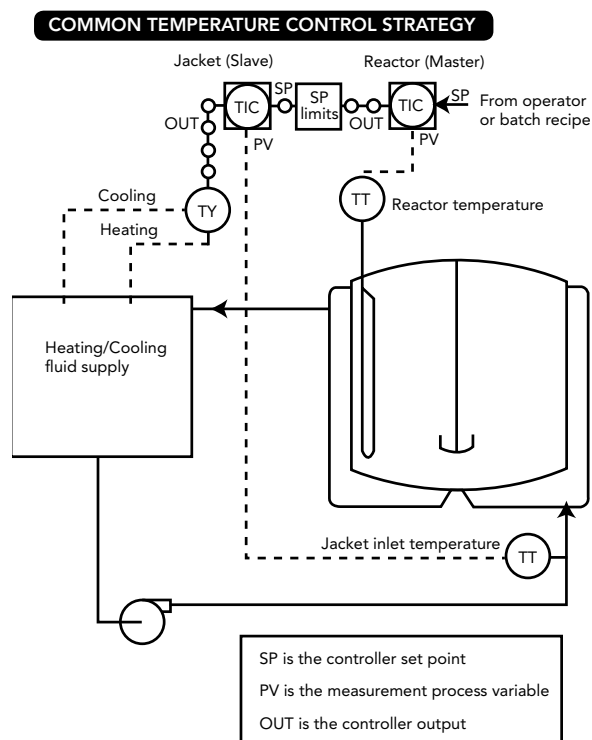

Figure 1. Various split-range (TY) configurations can be used to regulate jacketed glass-lined batch reactors.
Figure 1 shows a common control system for glass-lined batch reactors where the slave loop operates on the jacket inlet temperature to protect the lining. The heating/cooling supply can have various split-range (TY) configurations such as control valves to hot/cold headers (which we'll call Case 1), control valves to steam and chilled-water heat exchangers (Case 2) and control valve on the chilled